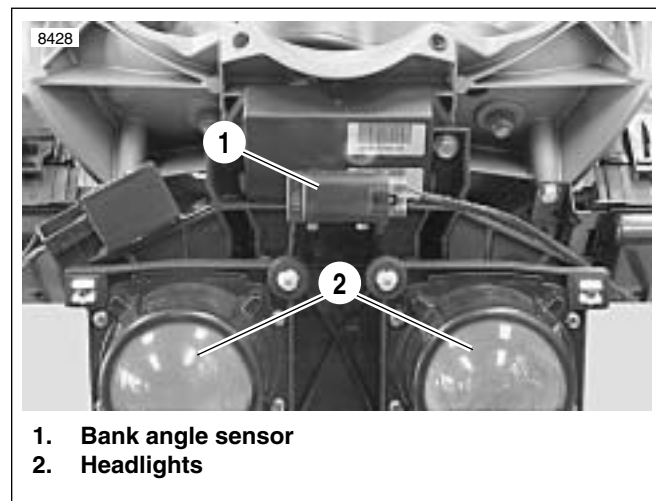

Figure 4-60. Bank Angle Sensor
See Figure 4-60. A Code 44 occurs when the bank angle sensor (1) voltage is outside the normal operating range of 0.25-4.8 volts. This may be caused by: